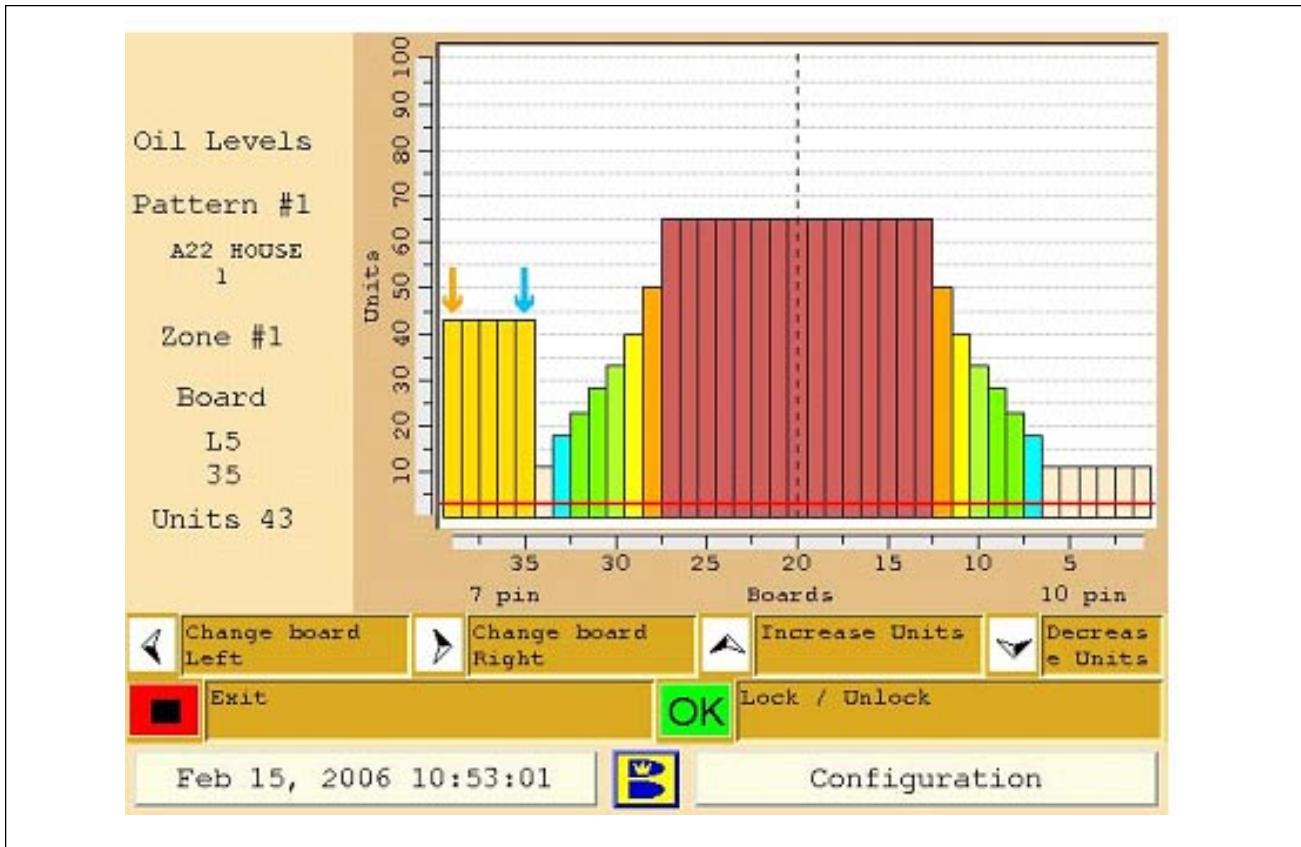

Figure 4-10. Oil Level
3. Use the left/right arrows to select the board you want to adjust (numbered 1-39 from the right of the screen or L2 (left 2 board) to R2 (right 2 board). Refer to Figure 4-10.